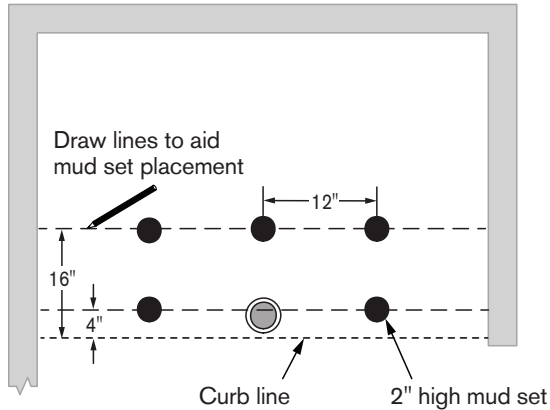

Figure 9
- 12 Before applying the mud set, mark the floor with the pattern and spacing shown below. (Figure 9)